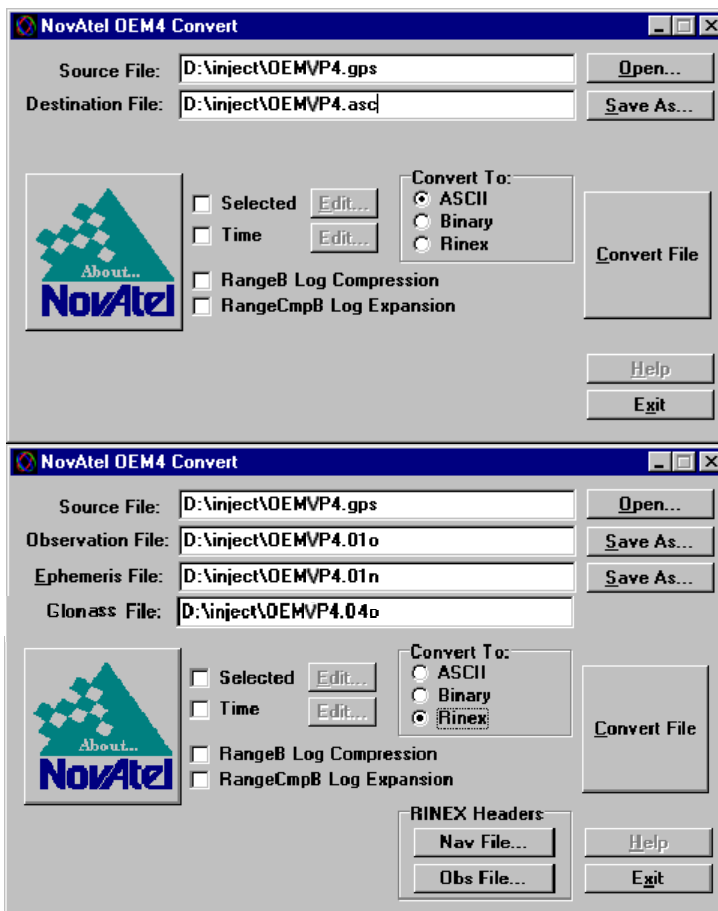

Figure 9: Convert4 Screen Examples
Convert is a 32-bit Windows application. It is shown in *Figure 9*. Convert will accept GPS file formats and convert them to ASCII, Binary or RINEX format. The application also allows the user to screen out particular logs by selecting the desired logs from the list of available logs. This feature is useful for screening particular logs out of large data files in either ASCII or Binary formats.
Selecting the RINEX field, see *Figure 9, Convert4 Screen Examples on page 50*, in the Convert4 To section causes the:
- a. Information from this log overrides data entered into the Receiver Number, Type and Version fields using the OBS file button of the RINEX Headers section, see *Figure 9* on *page 50*.